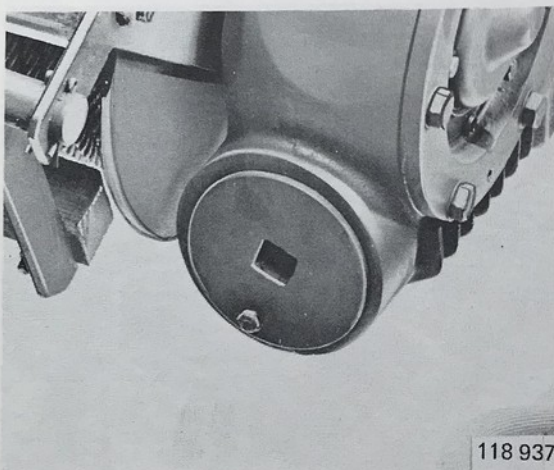

Fig. 92-9. Gear housing
1. Turn clockwise the rear cover on the gear housing, see Fig. 92-9.